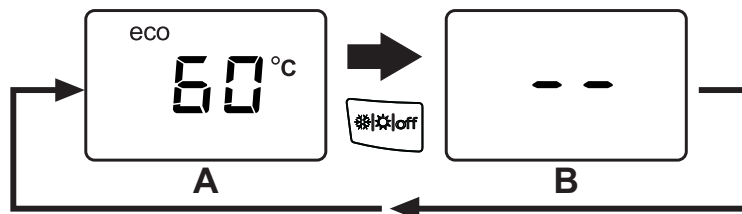

fig. 7- Turning the boiler off
- In the next 280 seconds, the venting cycle continues with the fan off (fig. 7) & again the pump will cycle on & off.
To switch modes, press the **winter/summer/off button**, for about 1 second, in the order indicated in fig. 7.